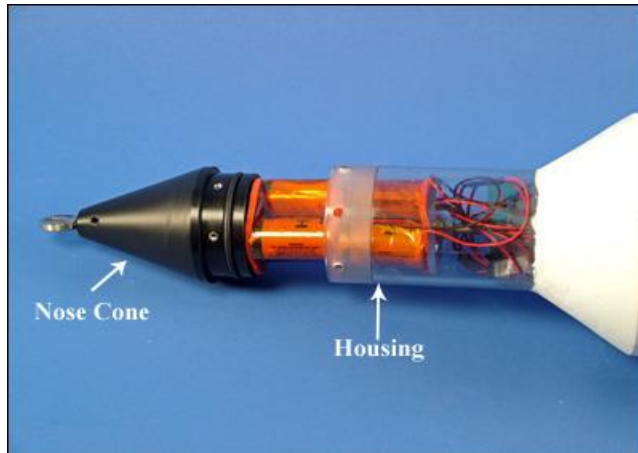

Fig. 1 Screws removed and nose cone disengaged from TMT-462
1. Clean all debris from the removable nose cone/tube assembly of the electronics housing. Using a 7/64" Allen wrench, remove the six (6) 6-32 socket-head cap screws and remove the nose cone with attached battery packs from the housing. **(Fig. 1)** Ensure that no debris enters the housing.